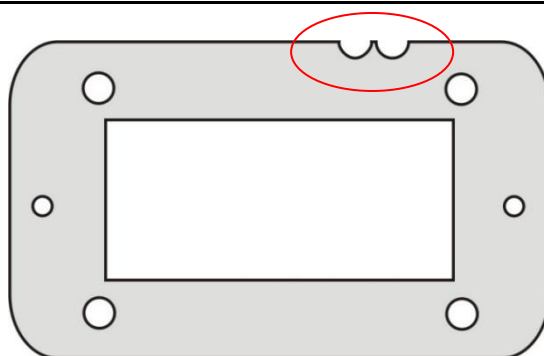

Figure 12. Schematic drawing of 100 μm μ -PrepCell spacer. Red circle: marking of the spacer thickness. One notch: 50 μm , two notches: 100 μm .
7. The spring-loaded contact pin from the WE contact holder will assure proper electrical contact with the working electrode (Fig. 12).